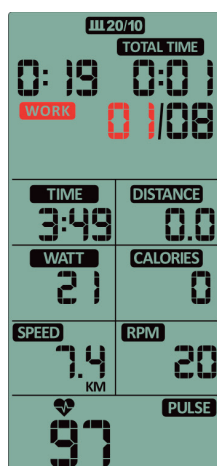

Figure 30
- READY is displayed and counts down 3 seconds (3-2-1), the window shows '01/XX', WORK flashes, TIME starts counting down 20 seconds, and DISTANCE, CALORIES, WATTS, SPEED, RPM start counting based on calculated values (Figure 30).